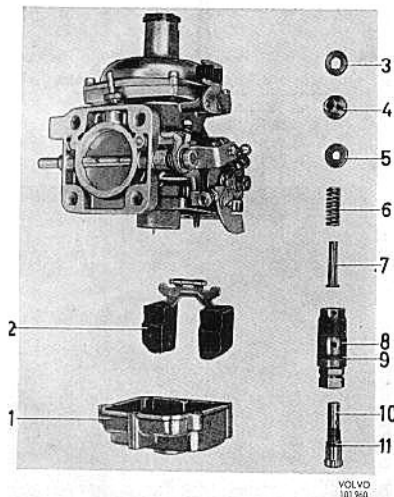

Fig. 89. Floatchamber dismantled
1. Screw up the orifice adjuster until the top of the orifice is just above the bridge. Slacken off the whole jet assembly (8, Fig. 89) a couple of turns.
5. Remove the floatchamber (1, Fig. 89).
7. Unscrew and remove the jet holder (8) together with the adjusting screw (10), the jet (7), the spring (6), the guide (4) and the washers (3 and 5).
- Screw in the adjusting screw (10, Fig. 89) together with a new O-ring (11) into the jet holder (8). Fit a new O-ring (9) on the jet holder.
- Fit the spring (6), the brass washer (5), the guide (4) with a new O-ring and light-alloy washer (3) on the jet, and fit the entire assembly together with the jet holder and adjusting screw into the main carburettor body. Screw in the jet holder by hand but do not tighten it. Screw in the adjusting screw until the upper part of the jet lies against the air valve when the latter is at its lowest position. Centre the jet and the guide according to the instructions given in "Centralizing the jet" on page 46.
- Fit the float (2) with shaft. The flat side of the float should be facing away from the main carburettor body.